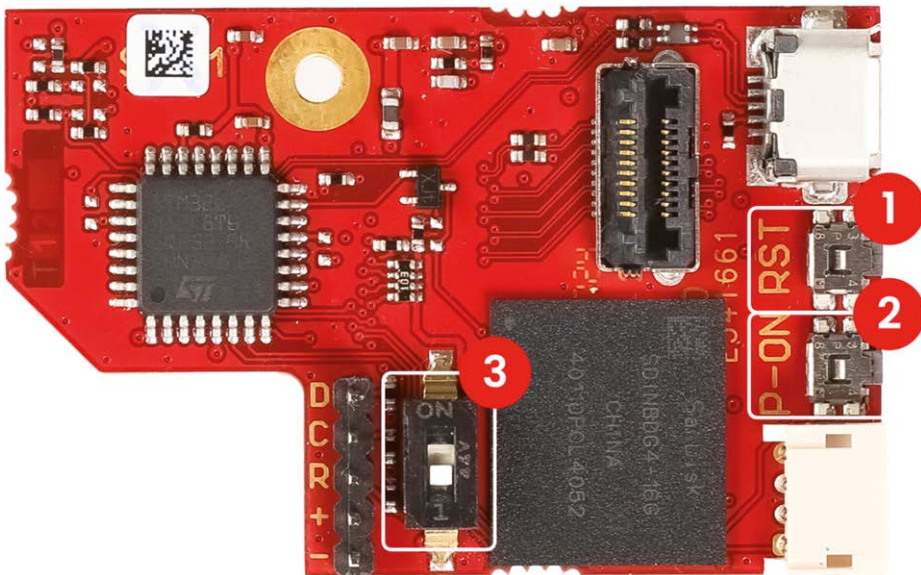

Figure 1.7 Buttons and switches on the board
As shown in Figure 1.7, there are two buttons (1 and 2) and a switch (3) on the board with the following functions: